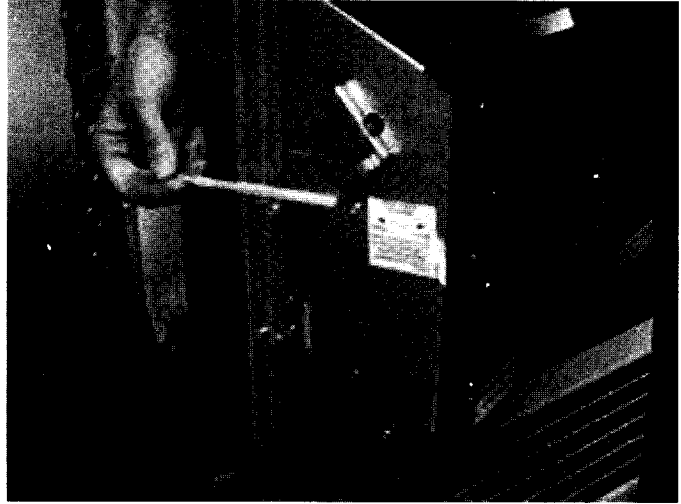

Figure 4
- a. Using a 1/4" nut driver, remove two screws securing the blower scroll / heater assembly to the left partition panel. Figure 4.